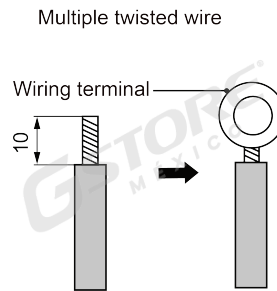

Fig 5.2
- (2) The connection of stranded wire (as shown in fig 5.2)